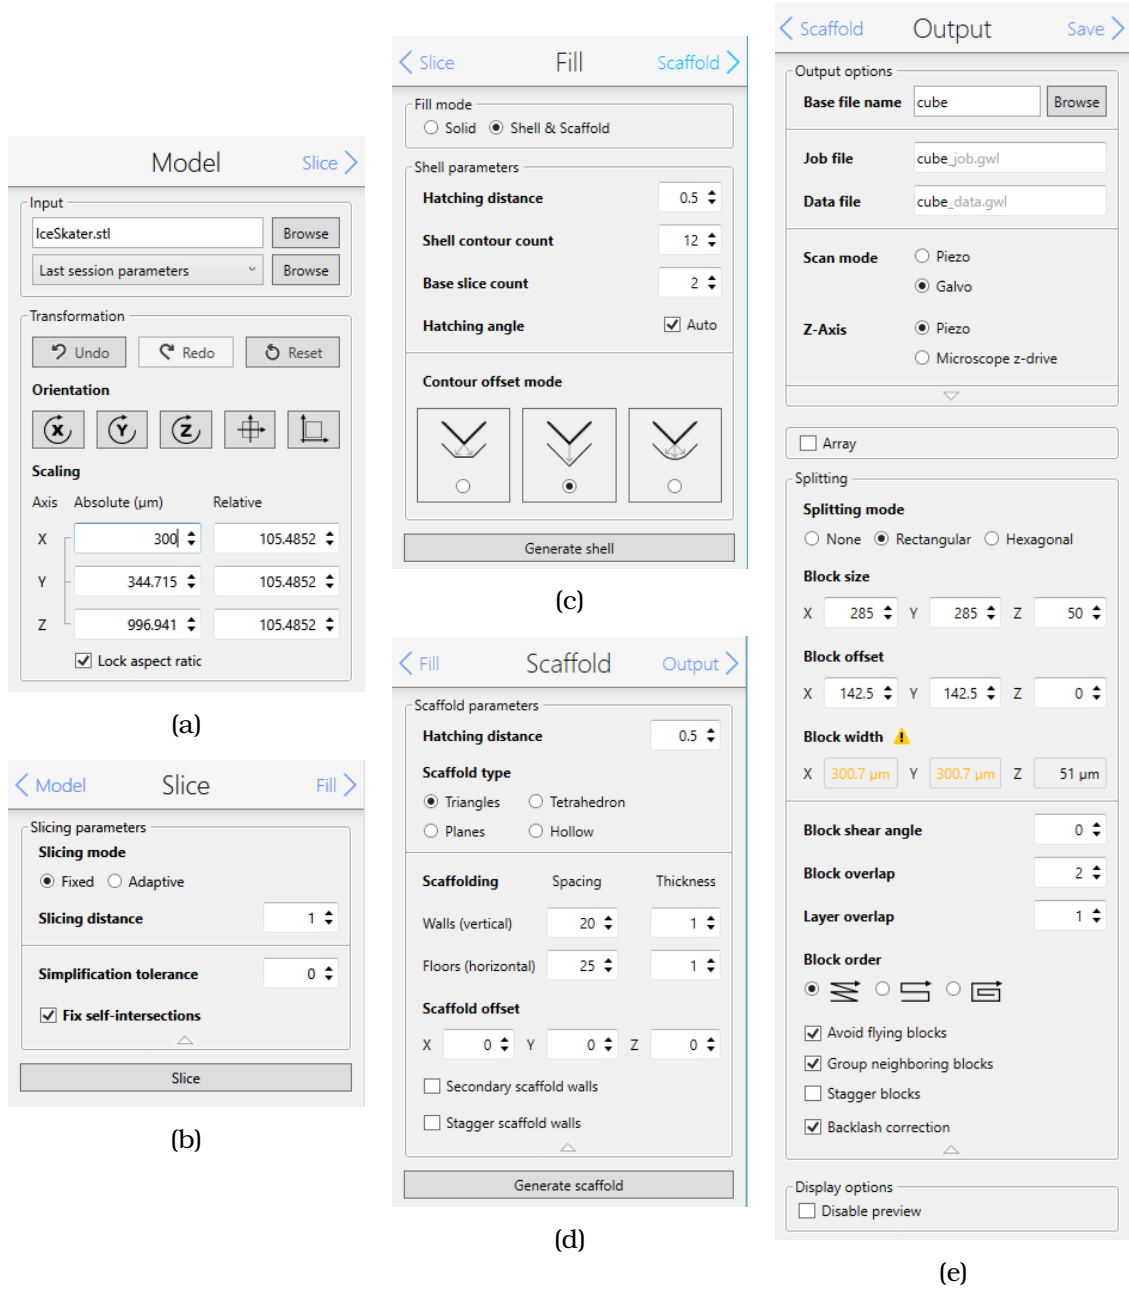

Figure 8.3.: DeScribe STL import wizard: Model, Slicing, Hatching and Output.
3. Follow the conversion process, with the Model, Slicing, Hatching and Output steps (Fig. 8.3). The created GWL-job file is opened in DeScribe.